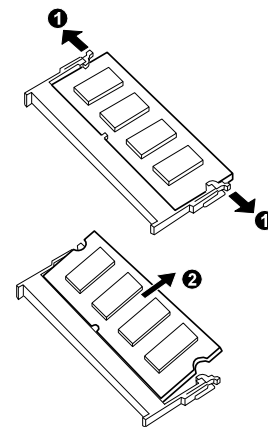

Figure 5-16. Removing the SO-DIMM
1. To install the SO-DIMM ,align the SO-DIMM's notched part with the socket's corresponding part and family insert the SO-DIMM into the socket at an angle. Then push down until the retaining clips lock the SO-DIMM into position(fig 5-16)